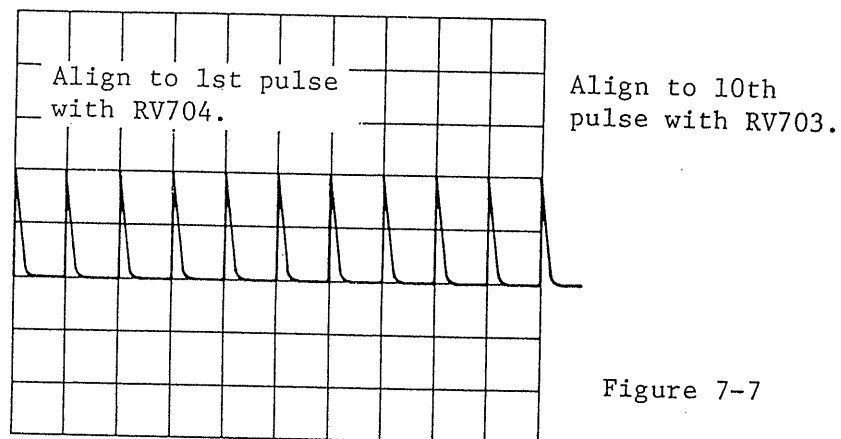
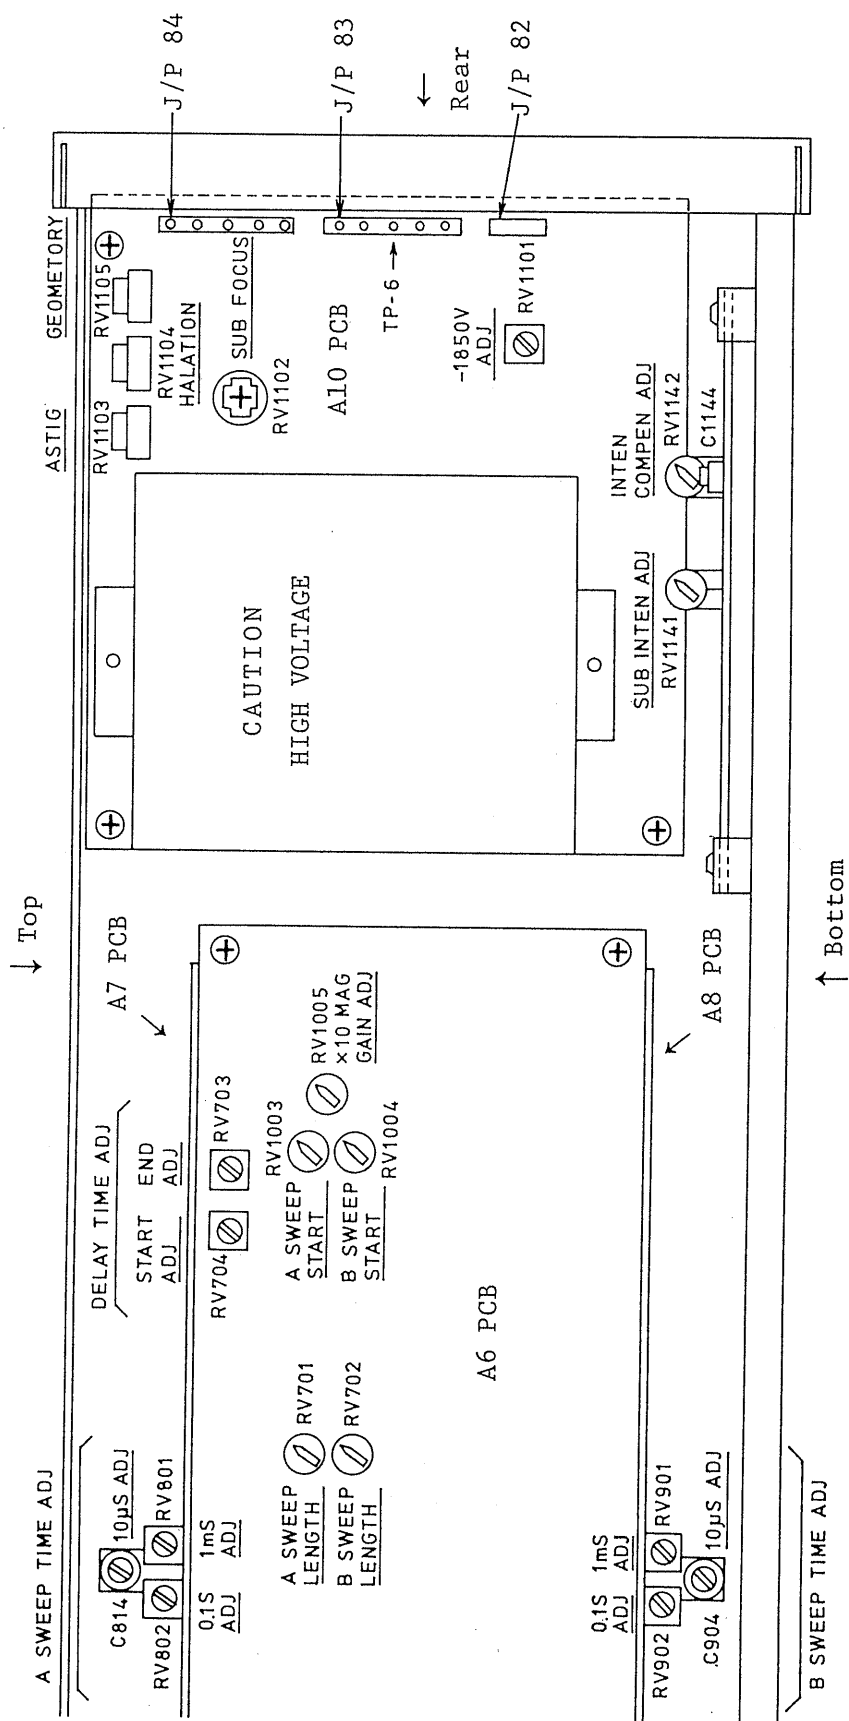

Figure 7-7
Figure 7-9 (Right hand side view)
- (1) Apply to the vertical input terminal a time marker signal of 0.1 sec or a signal of 10 Hz, and deflect the signal with an appropriate amplitude on the screen.
- (2) Set the VARIABLE knob (41) in the CAL'D position. Set the TIME/DIV switch (39) at 0.1 sec.
- (3) So adjust the 0.1S ADJ (Figure 7-9, RV802) that the displayed waveform conforms with scale divisions of the graticule.
- (4) Change the input signal to a time marker signal of 1 msec or sinusoidal wave signal of 1 kHz and change the TIME/DIV switch (39) to 1 msec.
- (5) So adjust the 1mS CAL (Figure 7-9, RV801) that the displayed signal waveform conforms with scale divisions of the graticule.
- (6) Next, change the input signal to a 10- μ sec time marker signal or a 100-kHz repetitive frequency signal and change the TIME/DIV switch indication to 10 μ S.
- (7) So adjust C814 (Figure 7-9) that the displayed signal waveform conform with scale divisions of the graticule.
Calibrate the sweep time to the indicated values of the TIME/DIV switch (40). Adjust 0.1S and 1mS (Figure 7-9, RV902 and 901) and C904 (Figure 7-9) in a similar manner as that for the case of "Calibration of A sweep time."
This adjustment is for setting the lengths of the A and B sweeps at 11 DIV. Set the TIME/DIV switches (39) and (40) at 1 mS and apply a time marker signal of 1 msec or a signal of repetition frequency 1 kHz, and so adjust the A SWEEP LENGTH (Figure 7-9, RV701) and B SWEEP LENGTH (Figure 7-9, RV702) that the sweep length become 11 DIV.
- (1) Set the TIME/DIV switches (39) and (40) at 1 mS, set the DISPLAY switch (29) at ALT, and display both A and B sweeps on the screen.
- (2) So set the horizontal POSITION knobs (44) and (45) that their white dots are positioned upward (noon position). So adjust the A SWEEP START (Figure 7-9, RV1003) that the start point of the A sweep is brought to the left hand end of the graticule.
- (3) Next, with the B SWEEP START (Figure 7-9, RV1004), bring the start point of the B trace to left hand end of the graticule.
- (1) Apply to the vertical input terminal a time marker signal of 0.1 mS or a signal of 10 kHz and display the signal with an appropriate amplitude on the screen.
- (2) Set the VARIABLE knob (41) in the CAL'D position and the TIME/DIV switch (39) at 1 mS.
- (3) Turn on the $\times 10$ MAG switch and so adjust the $\times 10$ MAG GAIN ADJ (Figure 7-9, RV1005) that the displayed waveform conforms with scale divisions of the graticule.
- (1) Apply to the vertical input terminal a time marker signal of 1 mS and display the waveform with an appropriate amplitude on the screen.
- (2) Set the VARIABLE knob (41) in the CAL'D position, set the TIME/DIV switch (39) at 1 mS, set the TIME/DIV switch (40) at 10 μ S, and change the DISPLAY switch (29) to the A INTEN state.
- (3) Set the dial indication of the DELAY TIME MULTI at 1.00 and align the displayed waveform with the graticule.
- (4) So adjust the DT START (Figure 7-9, RV704) that the accentuated portion of the waveform is aligned to the initial pulse as shown in Figure 7-7.
- (5) Set the dial indication of the DELAY TIME MULTI at 10.00.
- (6) So adjust the DT END (Figure 7-9, RV703) that the accentuated portion of the waveform is aligned to the 10th pulse.